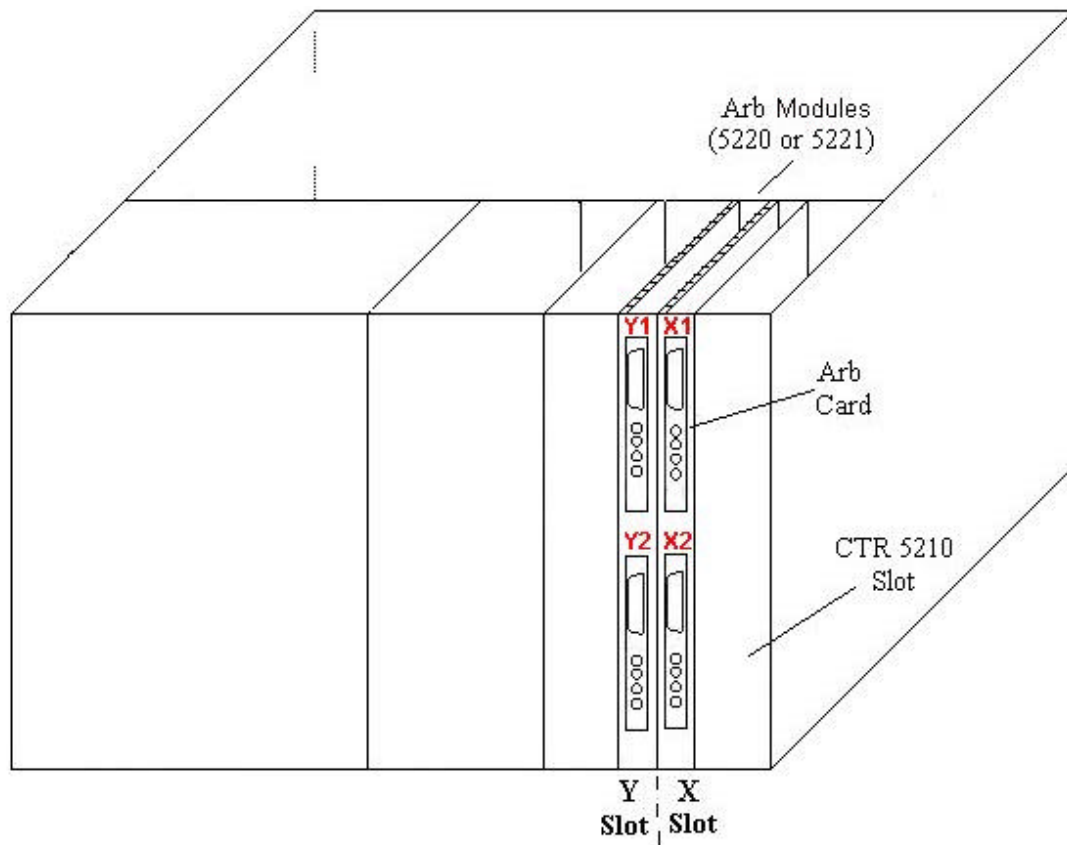

Figure 4.5 - Basic Chassis containing two ARB 5221 (four Arb Cards) in Slots X and Y
4. Slide the ARB module carefully on the guide rails in either of the two slots to the left of the CTR 5210 slot in the NSG 5200 chassis. Refer to Table 4.3 and Figure 4.5.